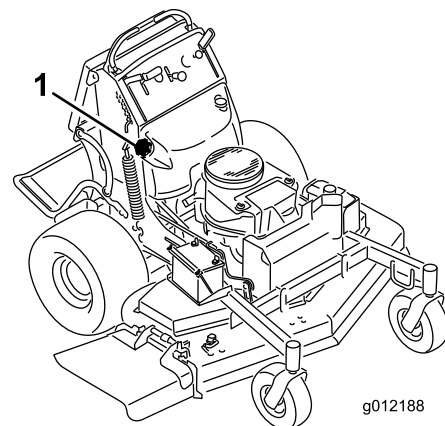

Figure 50
6. Using the syphon pump, drain the fuel into a clean gas can (Figure 50).